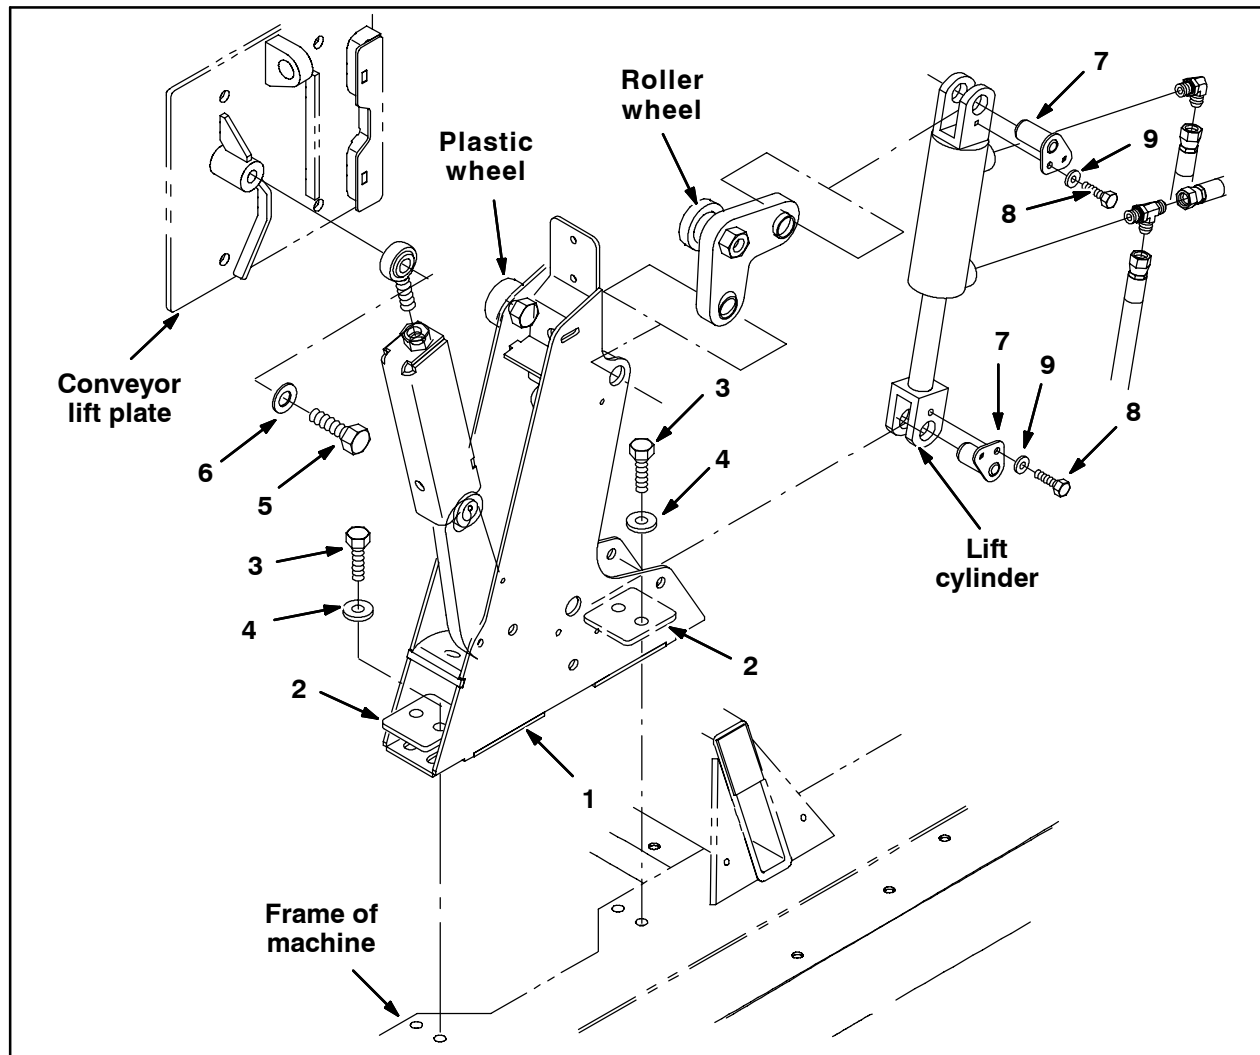

FIG. 8
6. Set the new conveyor lift assembly (1) onto the frame of the machine and use four hex screws (3), four flat washers (4), and two support plates (2) to secure the conveyor lift assembly onto the frame of the machine. Do not completely tighten the the four hex screws. Refer to Fig. 8.
7. Ensure the roller wheels in the conveyor lift assembly (1) are aligned with the conveyor lift plate and push the conveyor lift assembly as far forward in the slots as possible. Torque the four hex screws (3) to 64–83 Nm (47–61 ft. lbs). Refer to Fig. 8.
8. Use the clevis pins (7), flat washers (9), and hex screws (8) to install the lift cylinder onto the conveyor lift assembly (1). Refer to Fig. 8.
10. Use a hex screw (5) and a flat washer (6) to install the rod end onto the conveyor lift plate. Refer to Fig. 8.
15. If there is not at least 1/16" of clearance between the conveyor and the hydraulic reservoir, loosen the four hex screws (3) securing the conveyor lift assembly (1) to the frame of the machine, place a pry bar next to the hydraulic reservoir and pry the conveyor away from the hydraulic reservoir until there is adequate clearance. Torque the four hex screws to 64–83 Nm (47–61 ft. lbs). Refer to Fig. 10 and Fig. 8.